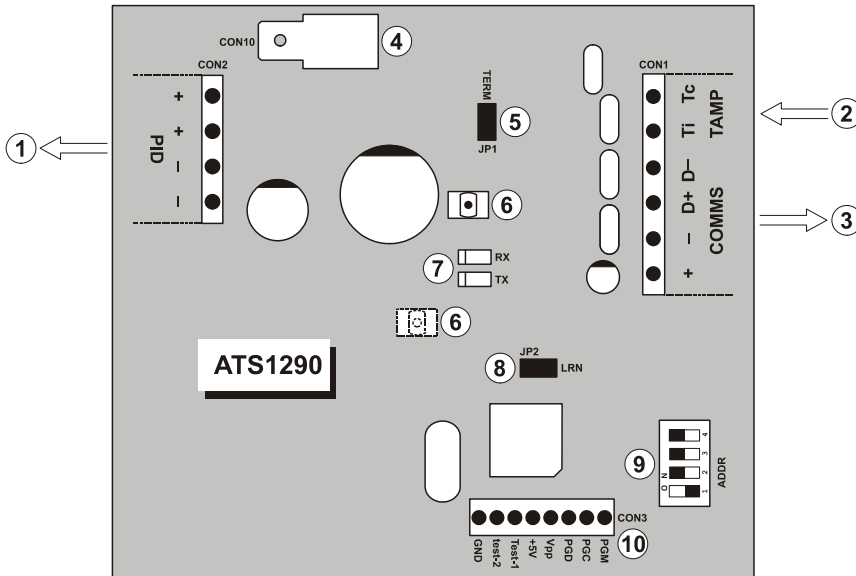
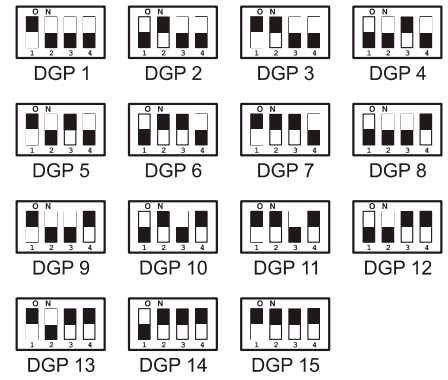
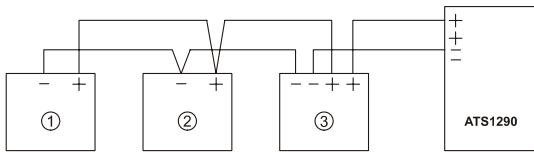

Fig. 1
Fig. 2
Fig. 3
CONNECTIONS CON1 (SEE FIG 1, ② AND ③)
CON10 (SEE FIG 1, ④)
DGP DIPSWITCH SETTINGS (SEE FIG 1, ⑤ & FIG 2)
ADDR DIP switches 1 to 4 are used to identify the DGP number to the ATS control panel. Select the required DGP number and set the Address DIP switch as indicated in figure 2.
LEDs (SEE FIG 1, ⑦)
CONNECTIONS CON2 (SEE FIG 1, ① & FIG 3)